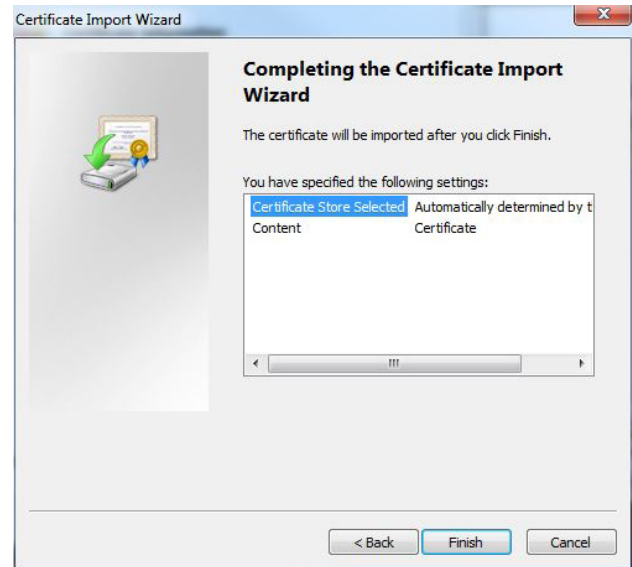

Figure 67. Certificate Import Wizard – Confirming Import Settings.
6. The certificate wizard confirms the selected setting for certificate import. Click Finish (see Figure 67).